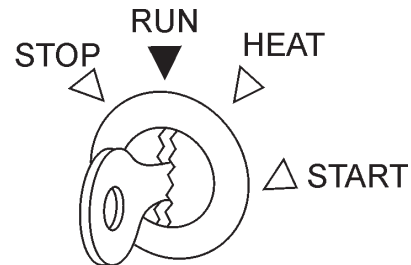

Figure 18. Starter Switch
1. Insert the key into the starter switch (Figure 18) and turn it to the "RUN" position. Check to see that the oil pressure and charge Lights on the "Warning Lamp Unit Display" are lit. If either light is not lit, check the system and wiring (refer to the Engine Operation Manual).